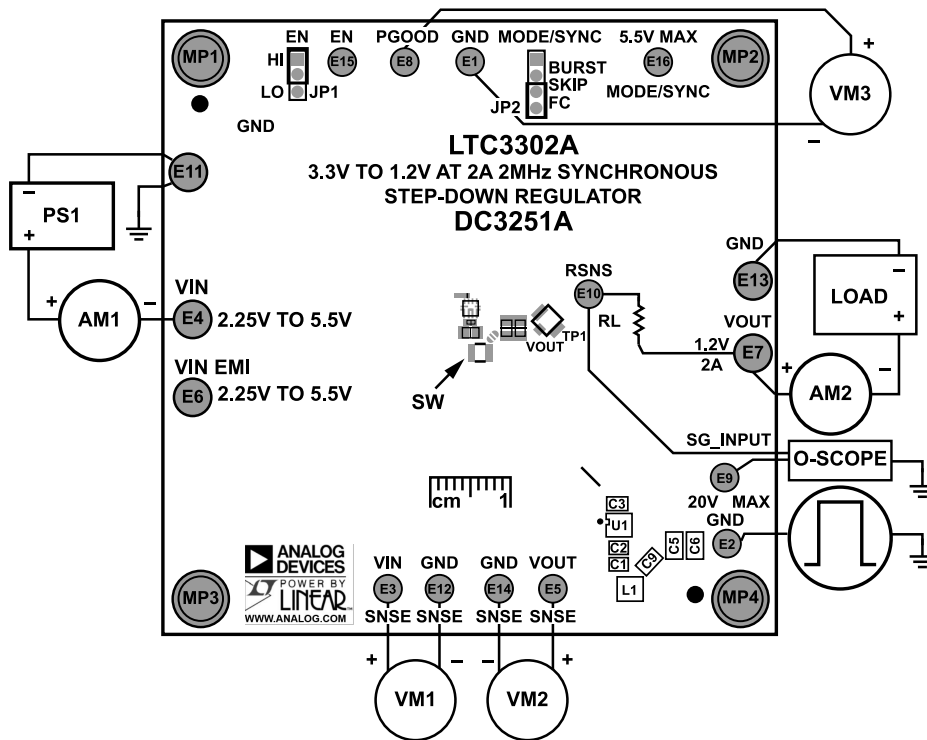

Figure 3. Test Setup for the DC3251A Demo Board
Demonstration circuit DC3251A is easy to set up and use to evaluate the performance of the LTC3302A. For the proper measurement equipment setup, see Figure 3 and follow the procedure below:
NOTE: For accurate V_{IN} , V_{OUT} , and efficiency measurements, measure V_{IN} at the V_{IN} SNSE and GND SNSE turrets, and V_{OUT} at the V_{OUT} SNSE and GND SNSE turrets as shown as VM1 and VM2 in Figure 3. When measuring the input or output voltage ripple, care must be taken to avoid a long ground lead on the oscilloscope probe. Measure the output voltage ripple by touching the probe tip directly across the output turrets or to TP1 as shown in Figure 4. TP1 is designed for a 50 Ω coax cable to reduce any high frequency noise that might couple into the oscilloscope probes.
- To test the transient response with a base load, add the required resistor to produce a minimum load between V_{OUT} and RSNS turrets (RL shown on Figure 3). Note that the total load resistance is RL plus R8 (100 m Ω).